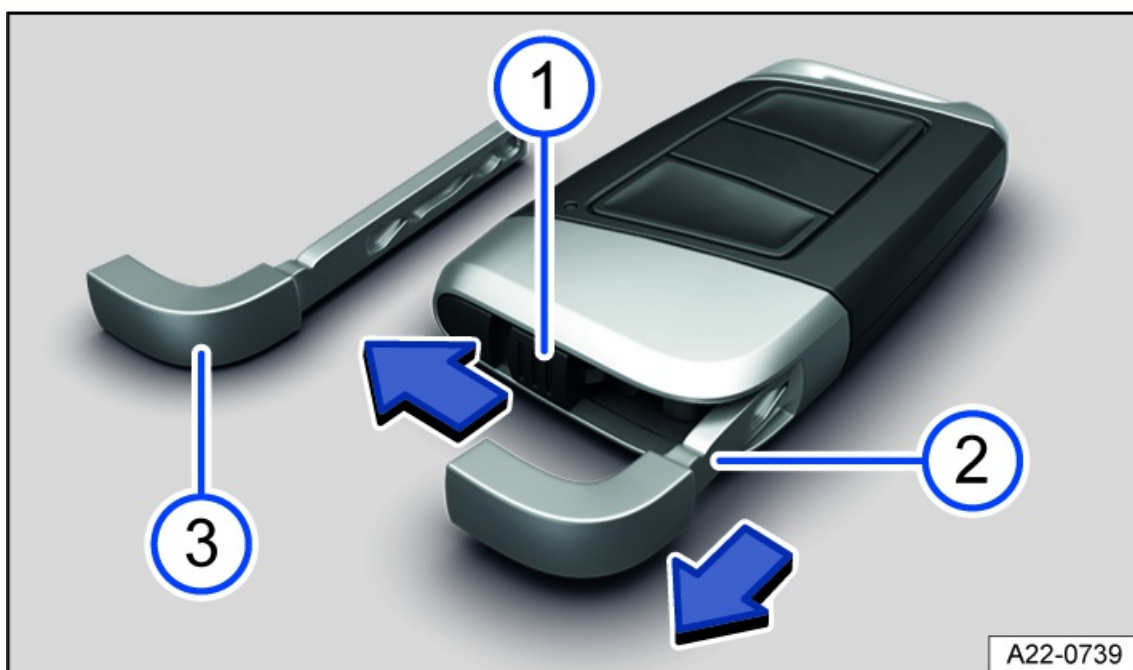

Fig. 48 Vehicle key: Unlocking the emergency key (general example).
- ① Push the locking mechanism in the direction of the arrow.
- ② Remove the emergency key in the direction of the arrow.
- ③ Emergency key.
There may be an emergency key *fig. 48* ③ located in the vehicle key that can be used to manually unlock and lock the vehicle.